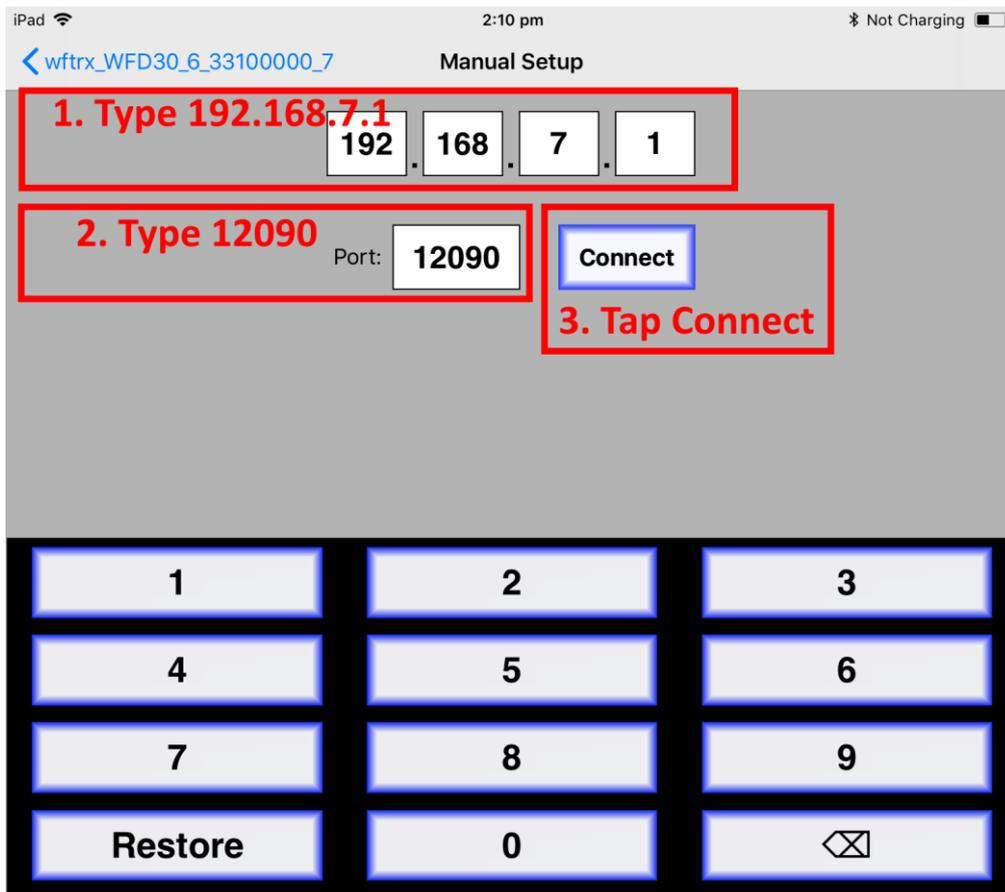

Figure 8 Connect manually if needed
- (9) If for some reason there is nothing in the “Available WiThrottle Servers” list, tap “Configure” or “Search for Wi-Fi Modules” and follow a. or b. below.
- Configure: The WFD-30 always has the IP Address 192.168.7.1 on its own access point, so type this IP Address. Then type 12090 into the Port textbox and tap the Connect button as Figure 8. The green network LED on your WFD-30 should now flash regularly to show that the UWT-100 is communicating with it.